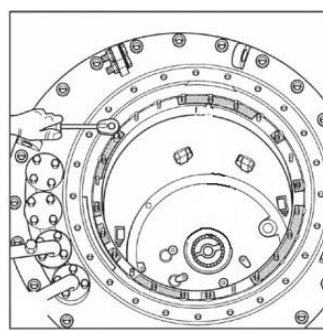

Figure 26
- (6) Remove the fixed nuts in the red painting mark area of the head flange (17 M8 nuts, No. 13 wrench), lift the tap changer head (Fig. 26) from supporting flange. Pay attention to do not damage the O ring. Put the tap changer head flange on the flat ground with laying on clean oil paper for using.